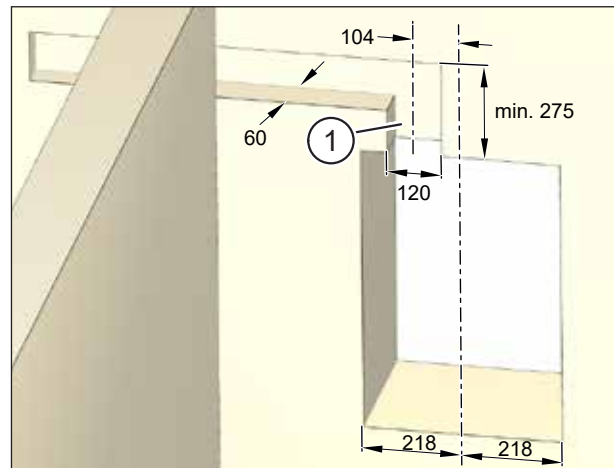

Fig. 13: Creating channel for ductwork connection on extract air side with flat ductwork (schematic representation)
- ▶ Create a channel 120 mm wide and 60 mm deep (see Fig. 13) for the extract air duct (item 1 in Fig. 13).